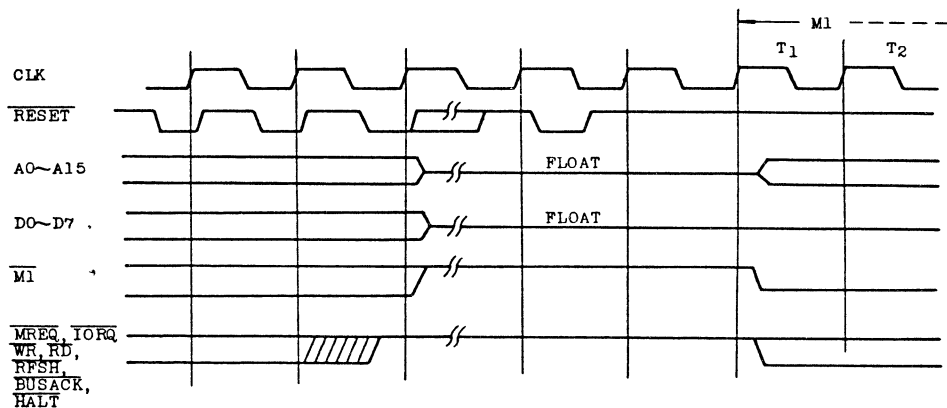

FIGURE 14. RESET CYCLE
- Fig. 14 Reset Cycle
(1) Instruction fetch
(See Figure 14.)